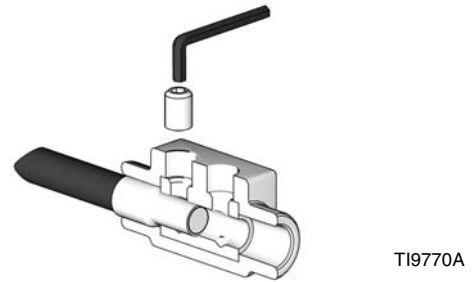
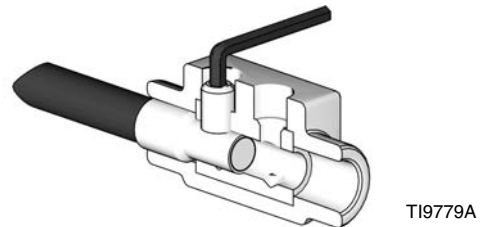

FIG. 9: Insert Wire and Setscrew
FIG. 10: Torque Setscrew
- a. Insert one wire from heated hose into connector. Ensure that ferrule is mating with connector insert. See FIG. 9.
- c. Insert remaining wire from pair into connector; ensure proper insertion depth. Thread setscrew and torque to 60 in-lbs (6.78 N•m); see sub-step B. See FIG. 9 and FIG. 10.